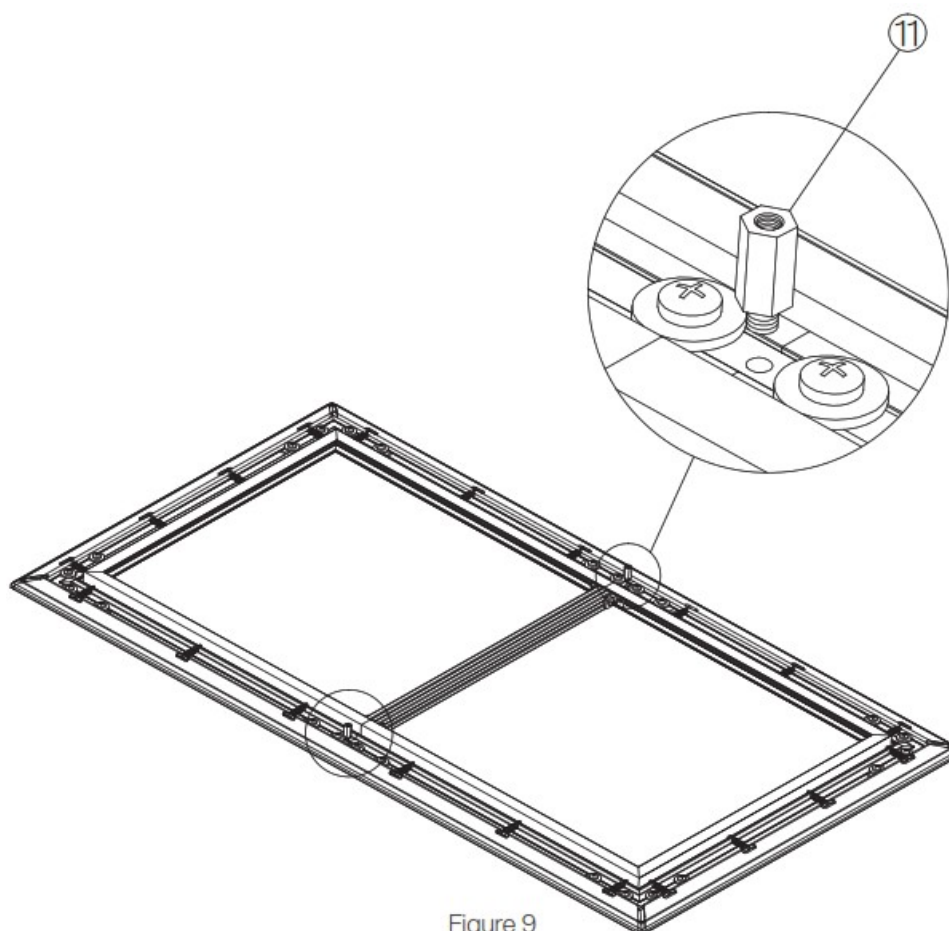

Figure 9
1. Splice the outer frame A and outer frame B into a complete frame (Figure 8), and drive the hexagonal studs into the long frame splicing strip (Figure 9)